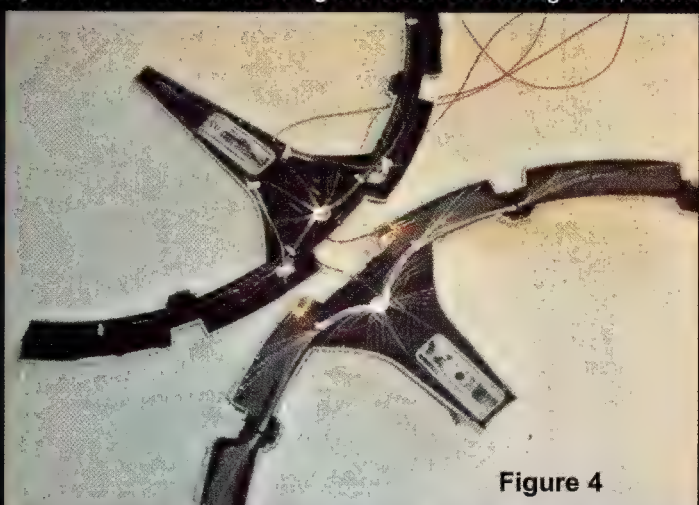

Figure 4
**Figure 4** is a close-up of the center hull section showing how the fibers were inserted before the LEDs were mounted. The section is divided into thirds and a super-bright white LED will be mounted to each of the bundles in the center. You can see that the same LEDs drive the fibers in the lower Promenade as well as the Habitat ring. Notice that each major spoke has two twisted pairs of wires emerging. These run all the way through the spoke and down the lower docking rings to the base to provide plenty of extra wires for lighting. My original plan for lighting was a sectional lighting method with each section on its own circuit all using a common ground. This would allow me to use a Basic Stamp microcontroller to actually light up different sections with different brightness levels. Later I came to my senses and just wired each section to its own current limiting resistor in the base.